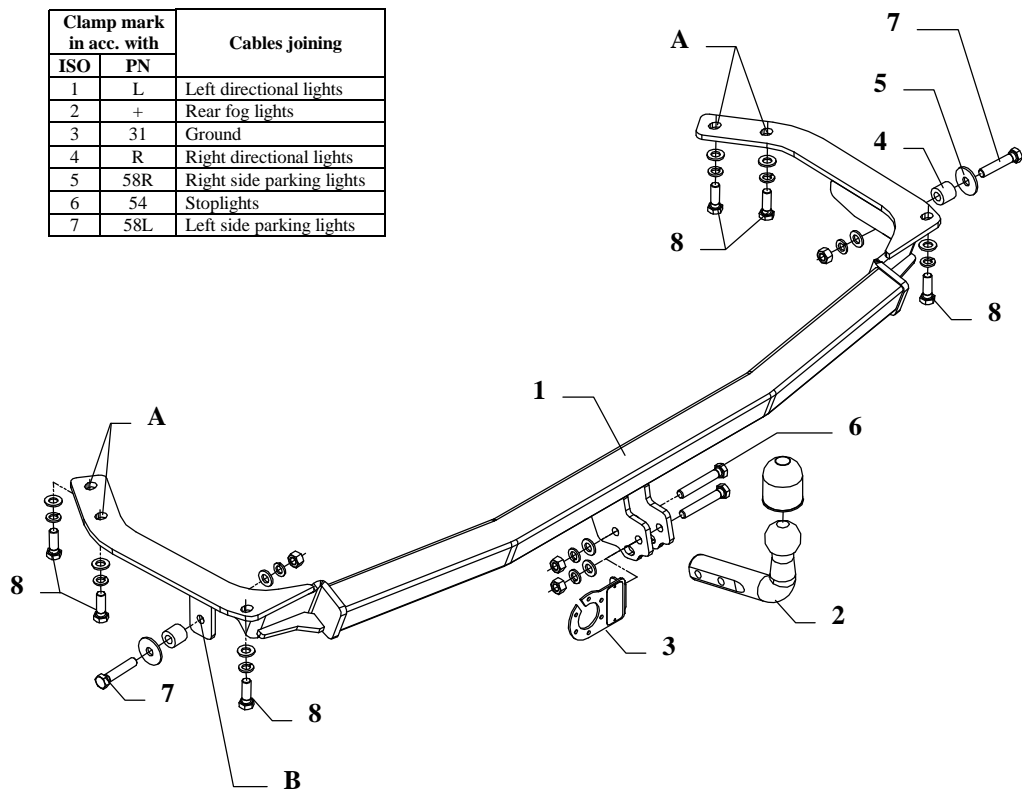

Fig. 1
3. Apply the main bar of the towbar (pos. 1) to the automobile frame, that way so holes of the towbar (pos. A) be covered with factory-made threaded holes. Fix using bolts M12x1,25x35mm (pos. 8).
4. Through holes (pos. B) fix with factory-made holes. Use distance sleeves $\varnothing 25 \times \varnothing 13 \text{mm}$, $L=23 \text{mm}$ (pos. 4), washers $\varnothing 41 \times \varnothing 13 \times 3 \text{mm}$ (pos. 5) and bolts M12x60mm (pos. 7) as showed on the fig. 1.